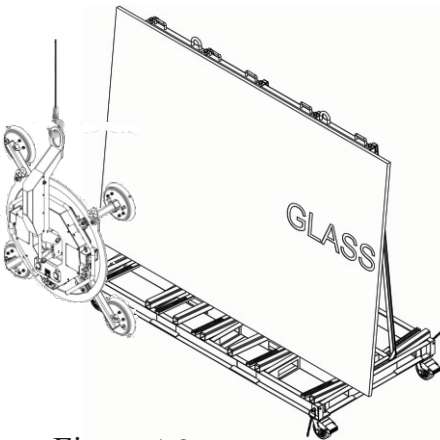

Figure 1.2
**Step 2:** Move the lifer close to the lifted glass (Figure 1.2).